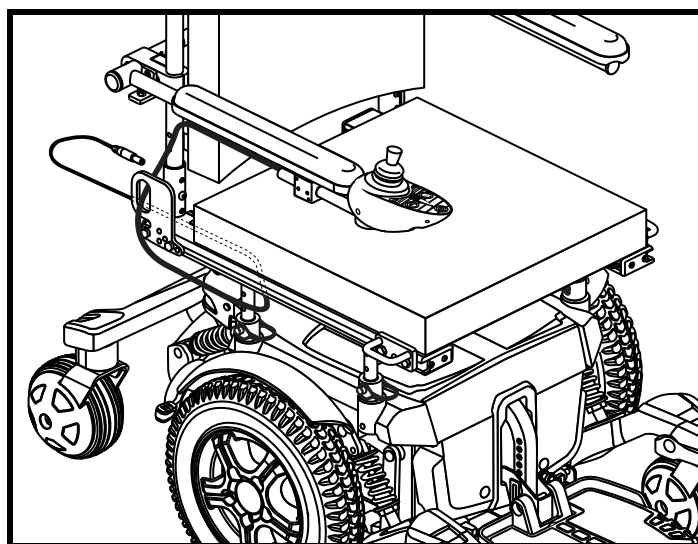

Figure 12. Controller Harness Routing on a Synergy Seat
4. Install the controller and route the harness to the back of the power base. See figures 12 and 13.